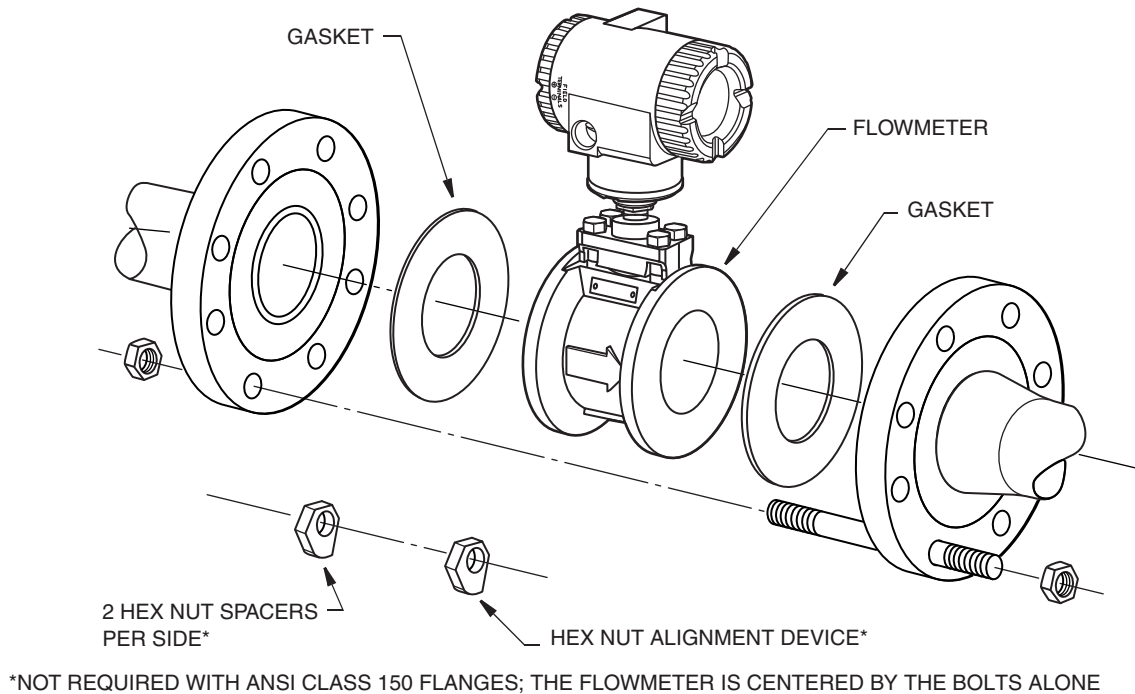

Figure 13. 84W Flowmeter Centering (using Spacers)
1. See Figure 13. Insert the first stud through the downstream flange at one of the lower holes, through the two hex-nut spacers, and then through the upstream flange. Place the nuts on both ends of the stud, but do not tighten.